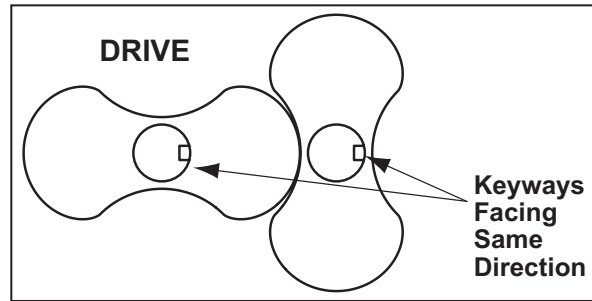

Figure 13 - Keyways position
- Stand rotors [1] on arbor press table with gear end shafts up. See Figure 13. Two keyways should point in the same direction, to the right.